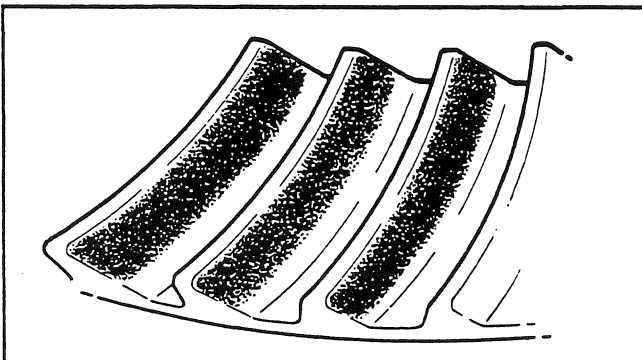

Fig. 83
6. During operation, a good pattern extends approximately the full length of the gear tooth. The top of the pattern is near the top of the gear tooth (see Fig. 83).